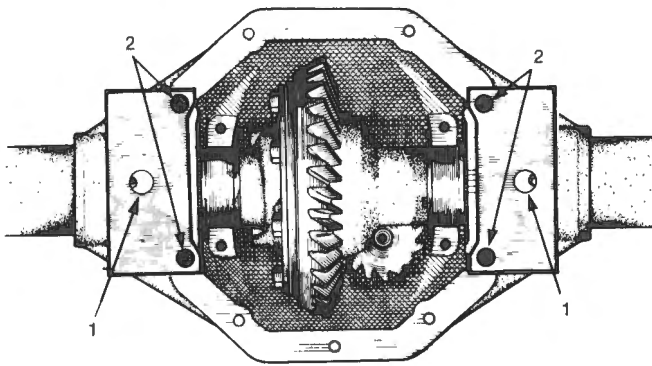

Fig. O-8
- 2 Attach the carrier spreader adaptors tool No. 18GA038. Fig. O-8.